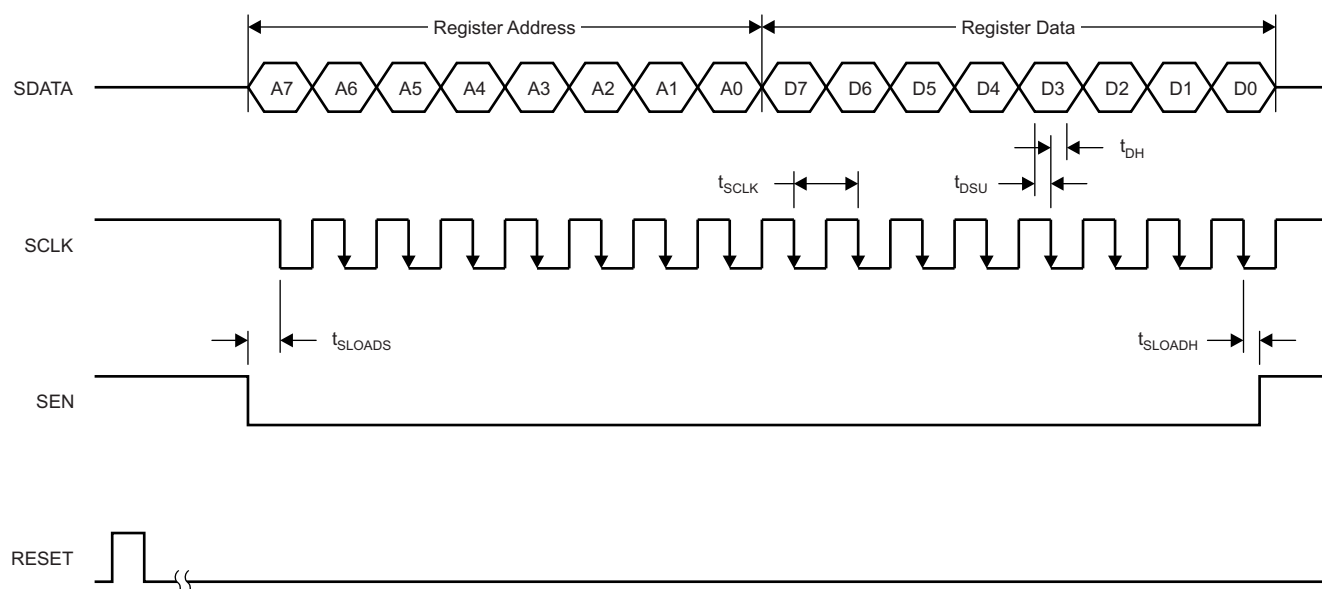

Figure 43. Serial Interface Timing Diagram
1. Either through a hardware reset by applying a high-going pulse on RESET pin (of widths greater than 10 ns), as shown in Figure 43,
Table 9. Timing Characteristics for Figure 43⁽¹⁾